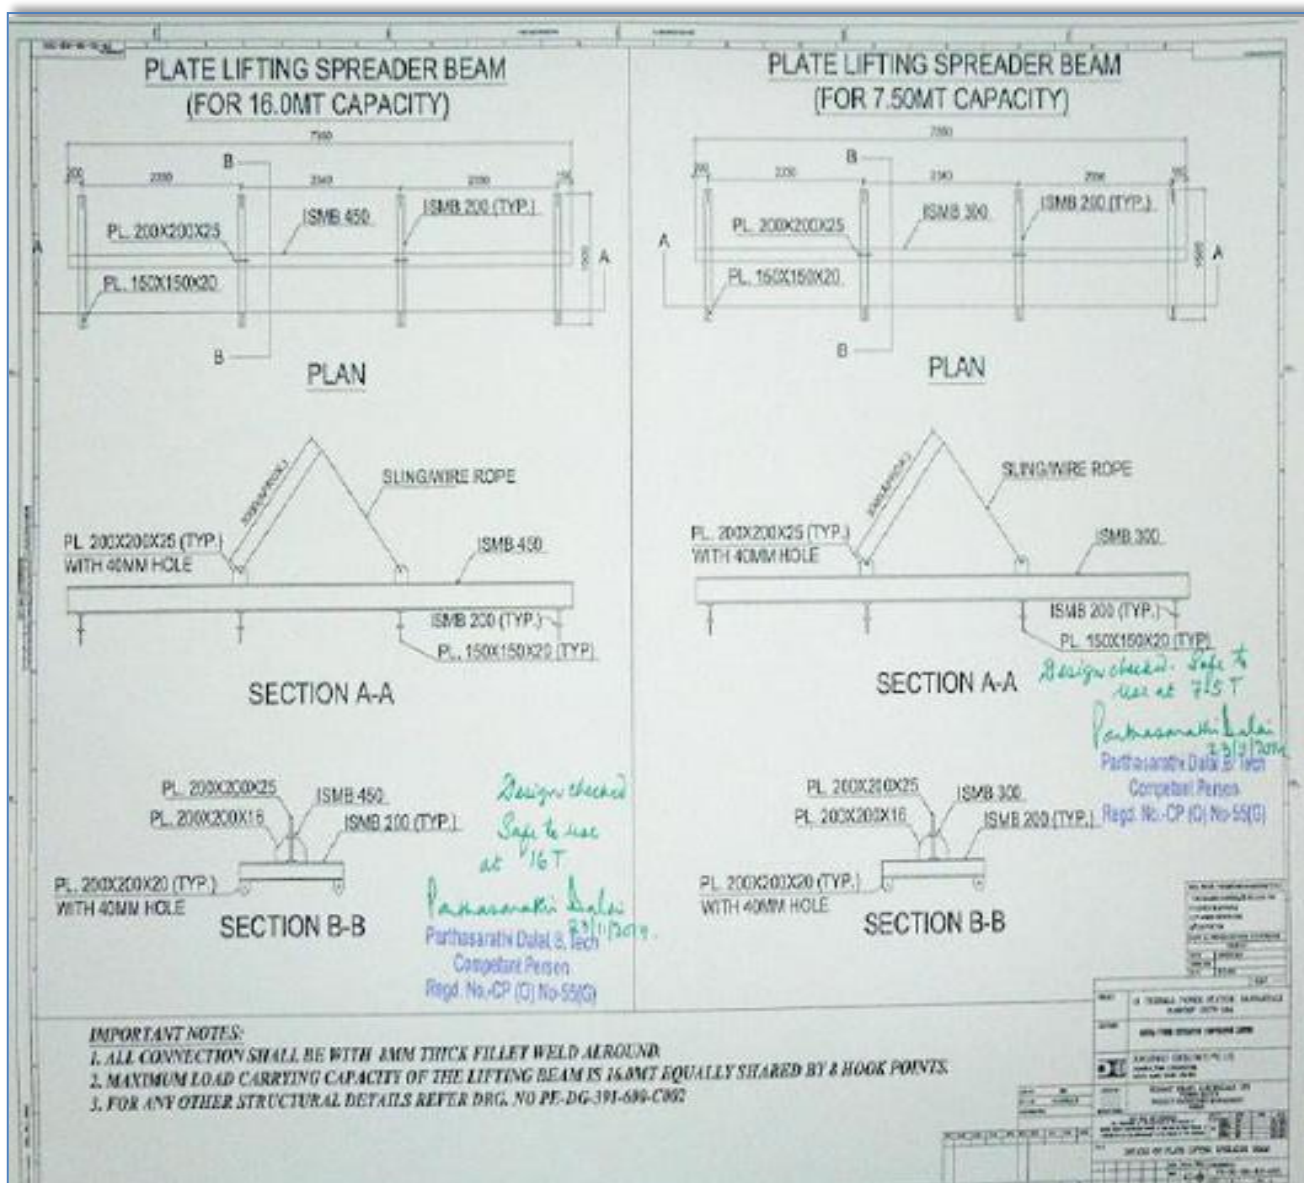

Fig. 13.2.4.3 Typical Plate Lifting Spreader Beam Configuration for 7.5 MT and 15 MT Loads
- k. Only BHEL Approved Plate Lifting Spreader Beam configuration shall be used (Sample in Fig. 13.2.4.2)